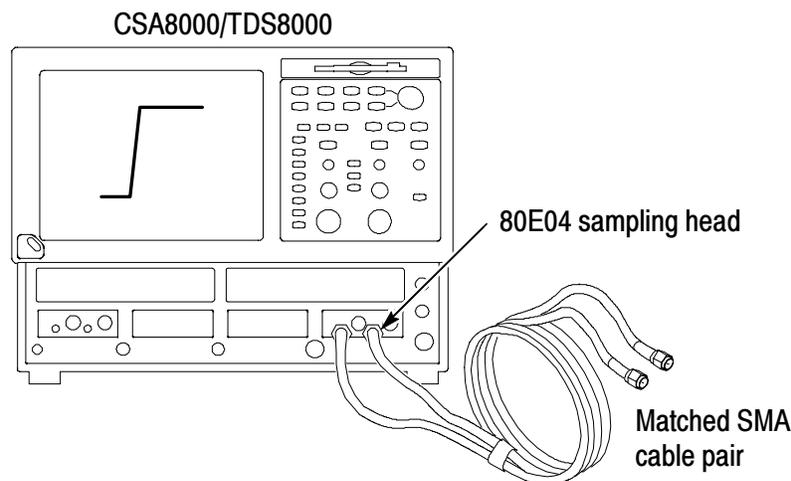

Figure 24: Checking skew between inputs
You can measure the skew of a pair of matched cables by connecting the cables to a Tektronix 80E04 Sampling Head, configured for a TDR output. Figure 24 shows a typical setup for checking the skew.
3. Connect the matched cable pair to the TDR outputs, as shown in Figure 24.